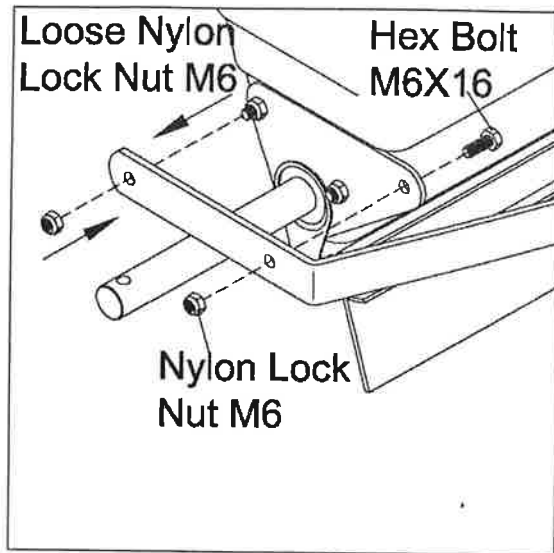

Figure 11
5. Loose one Nylon Lock Nut M6 from the hopper (show with the arrow), then fix one end of Support Polo to the bolt on hopper, then secure the support polo with the removed Nylon Lock Nut M6. Fix another hole on Support Polo with the hopper by using a Hex Bolt M6x16 and Nylon Lock Nut M6. See Figure 11. Do not TIGHTEN the bolts and nuts.